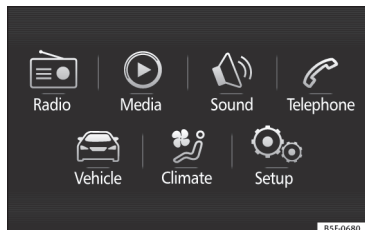

Fig. 41 Easy Connect: Main menu.
- Press the Infotainment button **(MENU)** and then the **(Vehicle)** function button **»» Fig. 41,**